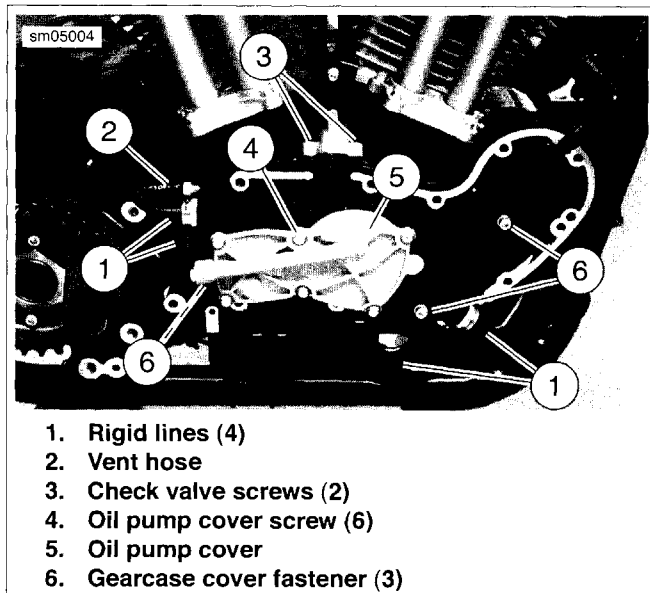

Figure 3-72. Gearcase Cover and Oil Pump: XR Models
6. See Figure 3-72. Remove rigid lines (1) and vent hose (2) from gearcase cover. See 3.14 PRECISION COOLING SYSTEM: XR MODELS, Oil Pump Lines. Mark lines and hoses for later installation. Discard hose clamps.
7. Remove two check valve housing screws (3).
8. Remove six screws (4) and remove oil pump cover (5). Discard O-rings.
9. Remove three fasteners (6). Loosely install oil pump cover to prevent rotors from falling out unexpectedly.